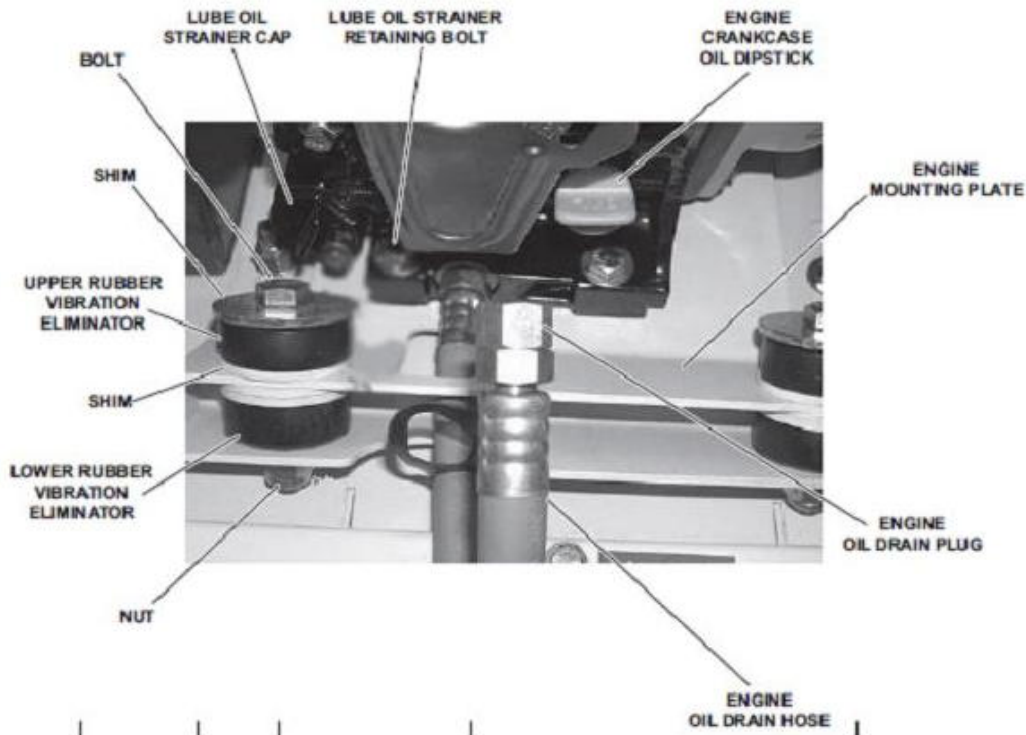

Figure 551-8ST-1004\_45 (Diesel Engine Assembly)
- f. Service and test the diesel engine assembly annually or at 500 hours. (Figure 551-8ST-1004\_45)